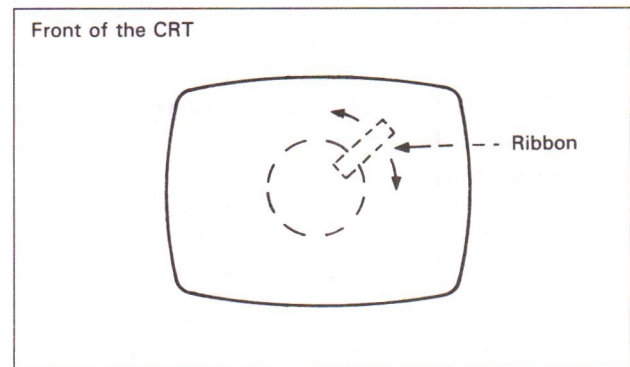

Fig. 8
1. Moving the ribbon toward the periphery, find the position where minimum aberration of the point TR is obtained. (**Fig. 8**)